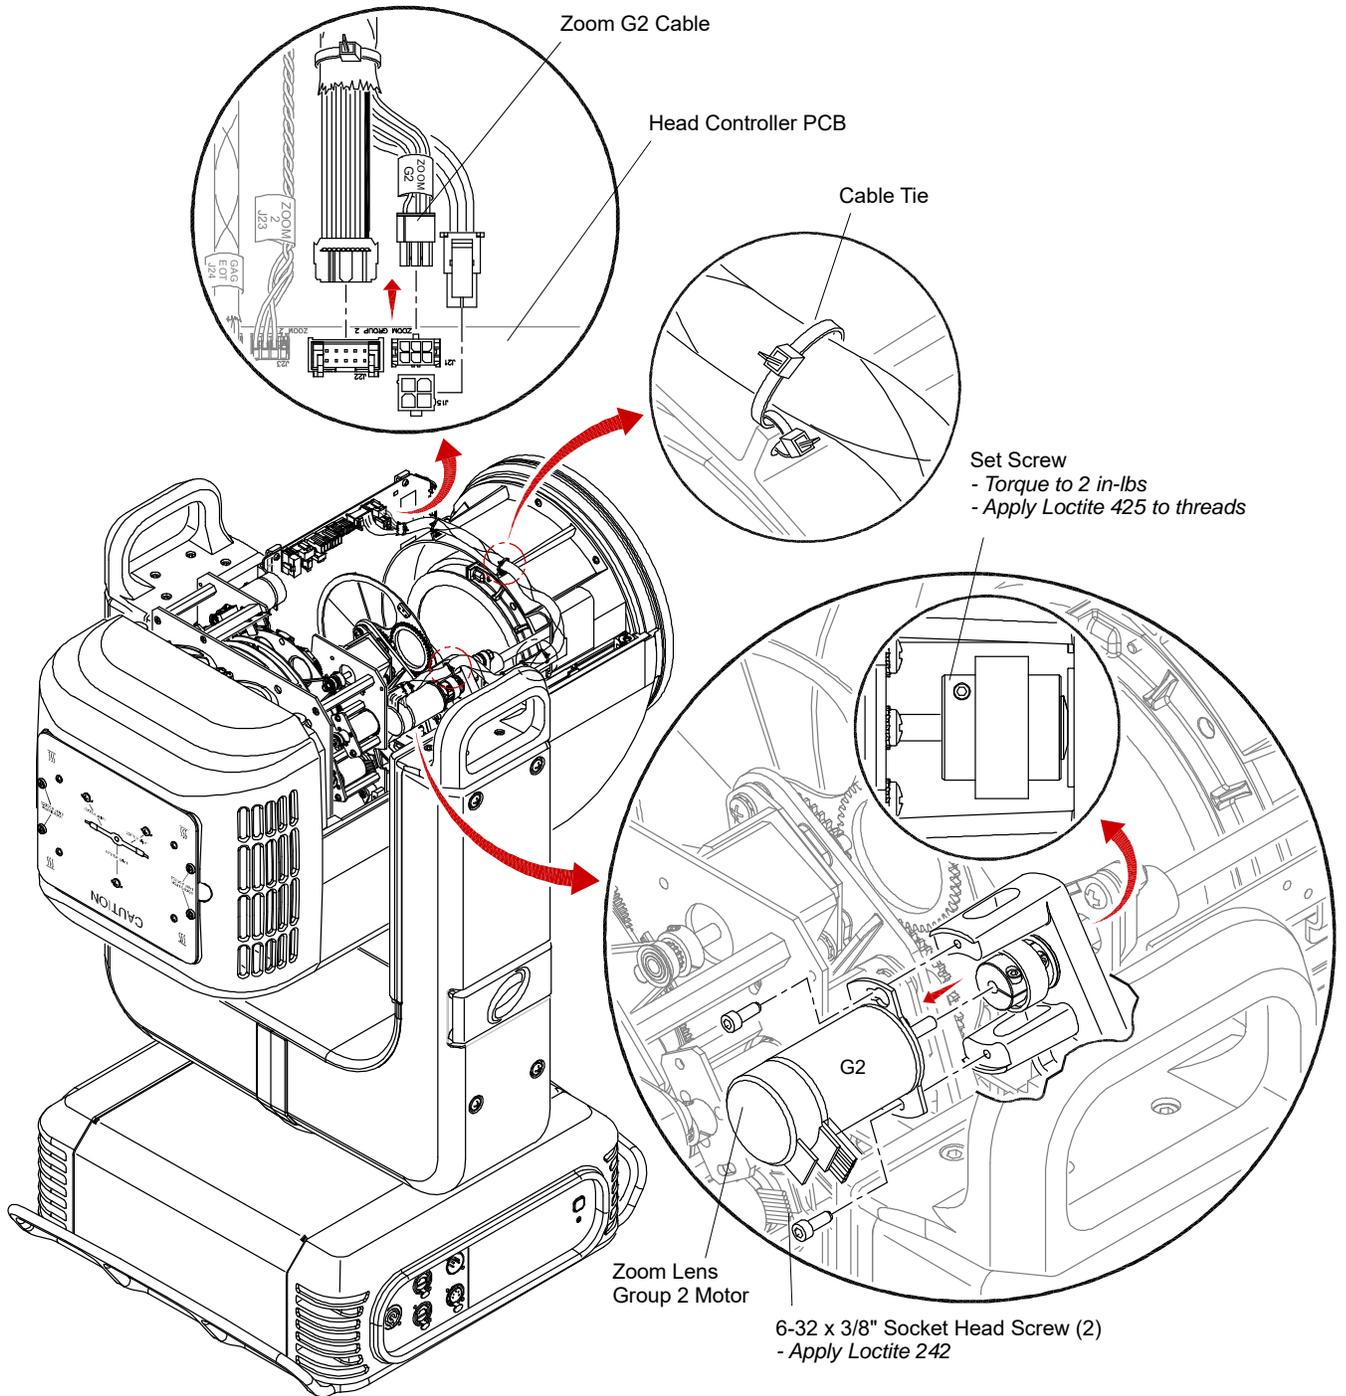

Figure 3-34: Removing Zoom Lens Group 2 Motor
- b. Lens Group 2 Motor (G2) in **Figure 3-34**